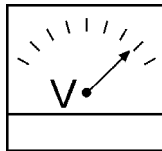

Figure 43. Voltmeter
7. The generator's AC-voltmeter (Figure 43) will display the generator's output in **VOLTS**. If the voltage is not within the specified tolerance,